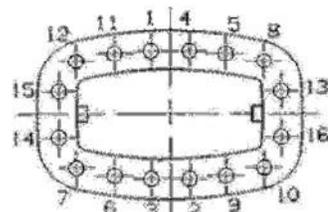

Figure 5
1. Thoroughly clean the valve interior and all components. Remove all scale, oil, grease or other foreign material. Wipe the seating surface of the disc (3) and valve seat (2) with a solvent soaked cloth. Clean the body (1) and bonnet (13) flange surfaces and all nuts and bolts.
2. Install the stem (6) carefully, sliding it through the bonnet (13) packing well, gland (15), and gland flange (16) until the threads are engaged with the yoke sleeve (19). Slowly rotate the stem clockwise until it extends beyond the bonnet (13).
3. Place the hand wheel backing ring (23) and hand wheel (21) on to the valve and secure with the hand wheel nut (22).
4. Position a new bonnet gasket (9) on the body's (1) bonnet flange, aligning the holes in gasket and body. The gasket should not extend over the open body cavity. The gasket may be coated with light oil. **DO NOT REUSE GASKETS.**
5. Install the disc (3) on to the stem (6) by screwing the disc nut (5) down. Using the marked information on the disc nut from disassembly, tack weld the disc and disc nut assembly to secure it.
6. Lift the bonnet (13), stem (6), and disc (3) assembly up and over the body. Check the location marks previously made to align the bonnet (13) and body (1) properly. Carefully lower the assembly until the body (1) and bonnet (13) flange marks meet. Again, caution must be used to prevent scoring or scratching of the seating surfaces. Keeping the bonnet (13) stationary, open the valve a few turns to ensure the disc (3) is not touching the seat (2).
7. Line up the body (1) and bonnet (13) holes. Make sure the gasket (9) does not extend into any of the bolt holes.
8. Install the bonnet bolting (7) and nuts (8) and tighten in a cross-over pattern (see Figure 5) to evenly load the gasket (9) to the appropriate torque value listed in Table 2.
9. Install new packing (12) per instructions in section "Stem Packing Replacement".
10. Align and center the packing gland (15) in the packing well.
11. Holding the eye bolts (17) up, lower the gland flange (16) over the packing gland (15).
12. Install the eye bolt nuts (18) and alternate tightening with no more than a quarter turn on each until hand tight. With a wrench, tighten the eye bolt nuts at least 1/2 to 3/4 turns more.
13. Open and close the valve using the hand wheel (21). The action should be smooth and regular through full stem travel.
1. Thoroughly clean the valve interior and all components. Remove all scale, oil, grease or other foreign material. Wipe the seating surface of the disc (3) and valve seat (2) with a solvent soaked cloth. Clean the body (1) and cover (15) flange surfaces and all nuts and bolts.
2. Attached the hinge arm (7) to the disc (3) securing it with the disc nut (6). Secure the disc nut with a new cotter pin (5). If the old pin is in good condition, it can be reused, however a new pin is always recommended.
3. Lift the disc (3) assembly into the body (1), again, being careful not to scratch the seating surfaces. While supporting the assembly, insert the hinge pin (8).
4. If the disc (3) is internally hung, install washer (10) and bolt (11) and secure with tack weld. For valves with a side plug, install the spring washer (18) and plug (17).
5. Open the valve by lifting the hinge arm (7). The action should be smooth and regular through the full hinge pin (8) rotation.
6. Position a new gasket (12) on the body's (1) cover flange, aligning the holes in gasket and body. The gasket should not extend over the open body cavity. The gasket may be coated with light oil. **DO NOT REUSE GASKETS.**
7. Line up the body (1) and cover (15) holes. Make sure the gasket (12) does not extend into any of the bolt holes.
8. Install the cover bolts (13) and nuts (14) and tighten in a cross-over pattern (see Figure 5) to evenly load the gasket (12) to the appropriate torque value listed in Table 2.